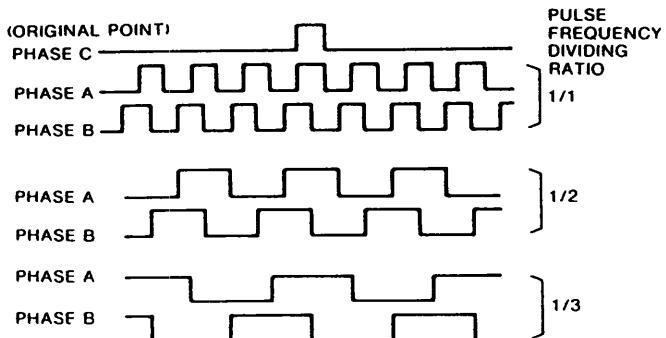

Fig. 6.11 Output Waveform of Optical Encoder
(4) Pulse resolution
The pulse frequency of the PG can be further divided by using the divider in the SERVOPACK. The phase relation is the same as in (3), above. Set the pulse frequency dividing ratio according to Table 6.8. Fig. 6.11 shows the optical encoder output waveform under the dividing pulse frequency.